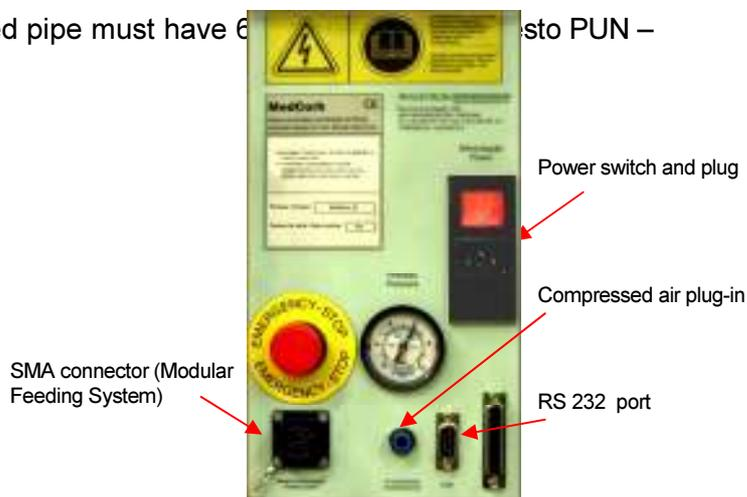

Figure 4 -MedCork panel
4. **Connect the MedCork to the compressed air**, through existing plug in the MedCork panel, as shown in figure 4. The feed pipe must have 6 mm diameter (6 mm H – 6x1);